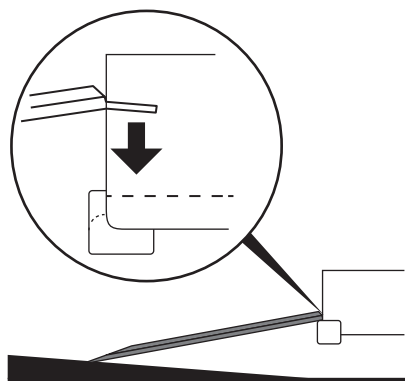

Figure 4-9
4. Place the ramp fingers or plate edges on the edge of the trailer or truck bed. See Figure 4-9.